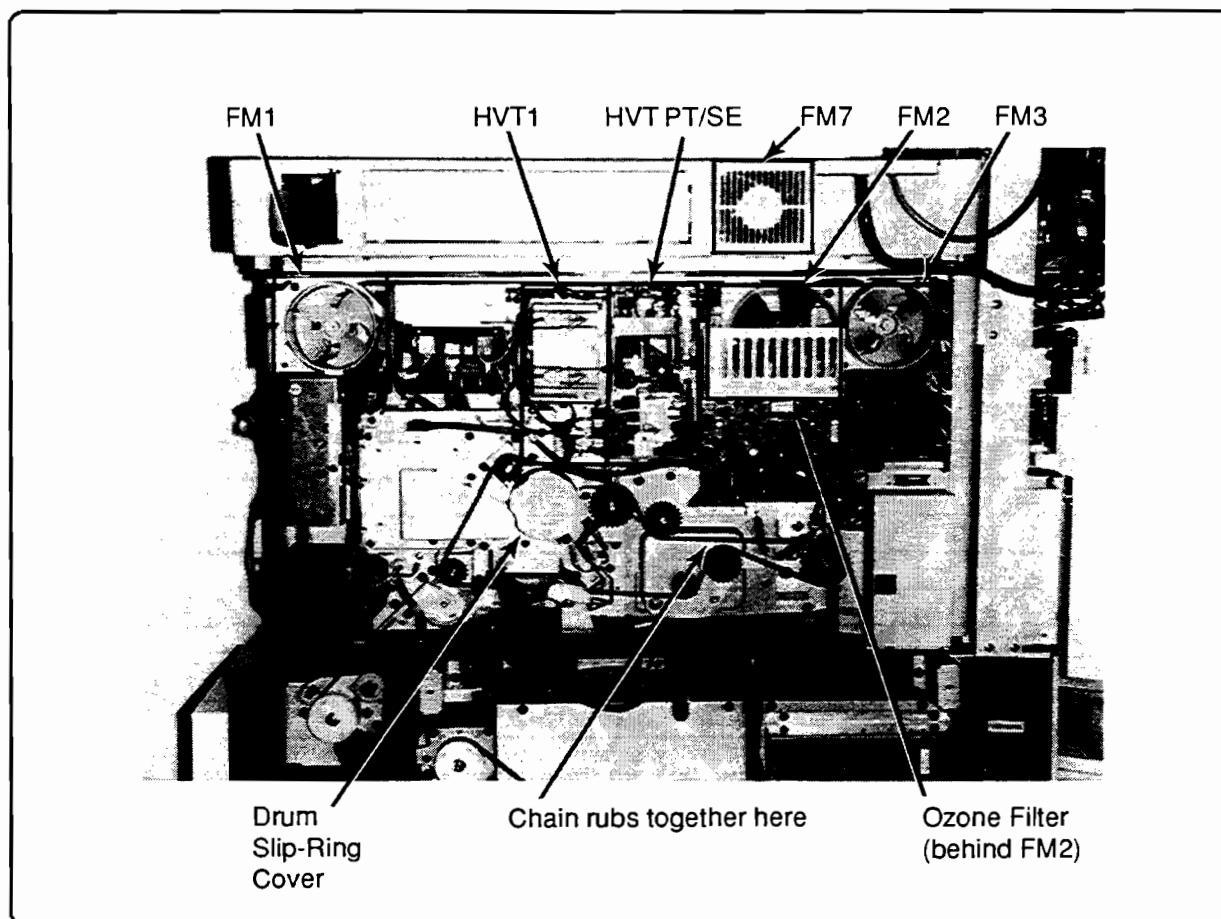

Figure 4-1. Rear Area Assemblies
5. Remove rear cover, override the switch with interlock key, and run one pass of "standard" self-test. Check for operation of fans: FM1, FM2, FM3, FM7 (Figure 4-1). Power OFF the printer and observe spin-down characteristics. Replace any "dead" or "dying" fans.
- a. Remove the HVT PT/SE by removing the two screws on the left and right sides and four connectors. (You will need a 10 inch Phillips screwdriver for easy removal. If not available, first remove HVT1 (Figure 4-1) and then HVT PT/SE.)
2. Check the Print Engine Drive Chain for stretching. Stretched chains can rub between Idler Gear and Tension Idler Gear (Figure 4-1). If chain is stretched or gears worn, perform Service Note 2684-8. Otherwise, lubricate the chain with Vactra 2 oil.
4. Remove the Drum slip-ring cover (Figure 4-1). Clean the upper drum grounding spring (in the cover) with alcohol. Clean the mating surface and the drum wiper chrome tracks with alcohol. Reinstall the cover. Ensure the star washers are installed.